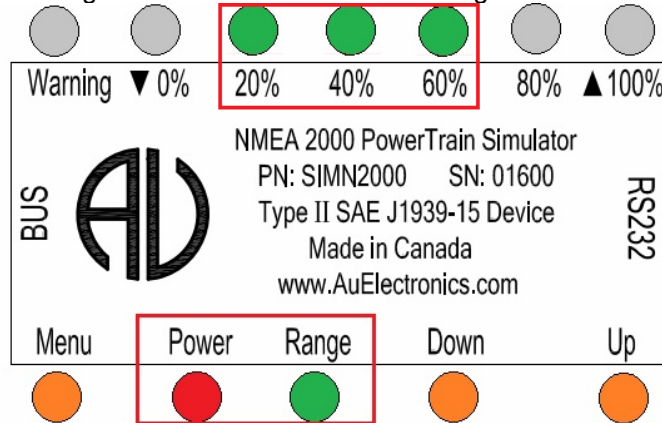

Figure 3-5 Power, Range, 20%, 40%, 60% LED on, indicating data range is from 61% to 79%
- If keep pressing **Up** button, the control step value will keep increasing. The 20%, 40%, and 60% LED will be on, as shown in Figure 3-5. It indicates the data range from 61% to 79%.